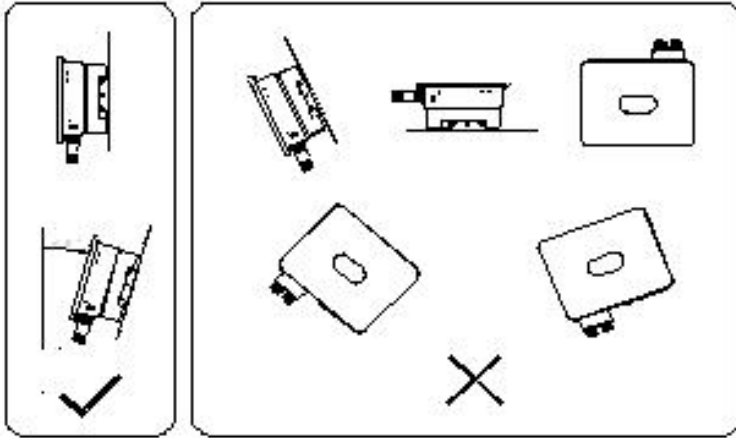

Fig. 2 Installation Location of Inverter
- (1) The environment temperature is between -30°C ~ 60°C .
- (2) The installation surface should be vertical. Refer to Figure 2.